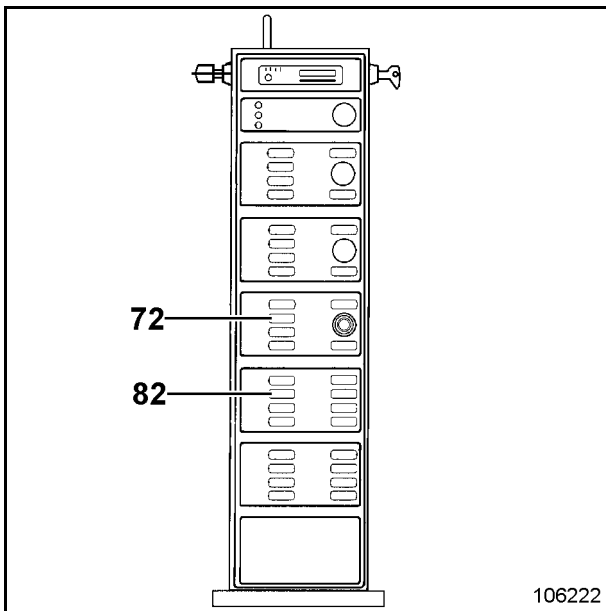

Fig. 2-101:
- to activate the parking brakes, press switch (82, Fig. 2-101:).
The track brakes can also be activated with switch (72, Fig. 2-101:).